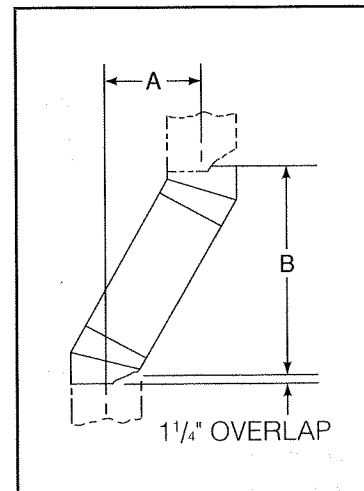

Figure 11
Figure 11 and Table 1 enable selection of the appropriate chimney components when using Offsets and Returns.
1. Determine amount of offset required to extend the chimney through a wall or around an obstacle. See Figure 11, dimension "A".